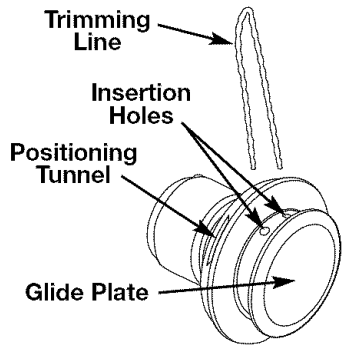

Fig. 10
3. Reinstall line glide plate (Fig. 10). The glide plate is a keyed item and will only fit one way. If it does not go into the cutting head smoothly, DO NOT force it. Rotate the glide plate until it slides into the cutting head easily.
4. Insert both ends of your line through the insertion holes in the side of the cutting head (Fig. 10).